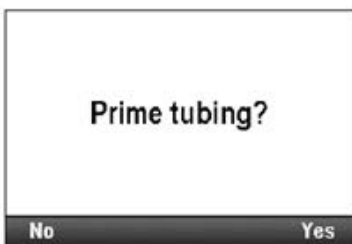

Figure 7: "Prime tubing?" screen
- Press **Yes** to prime the tubing or **No** if your tubing has been pre-primed. See Figure 7.